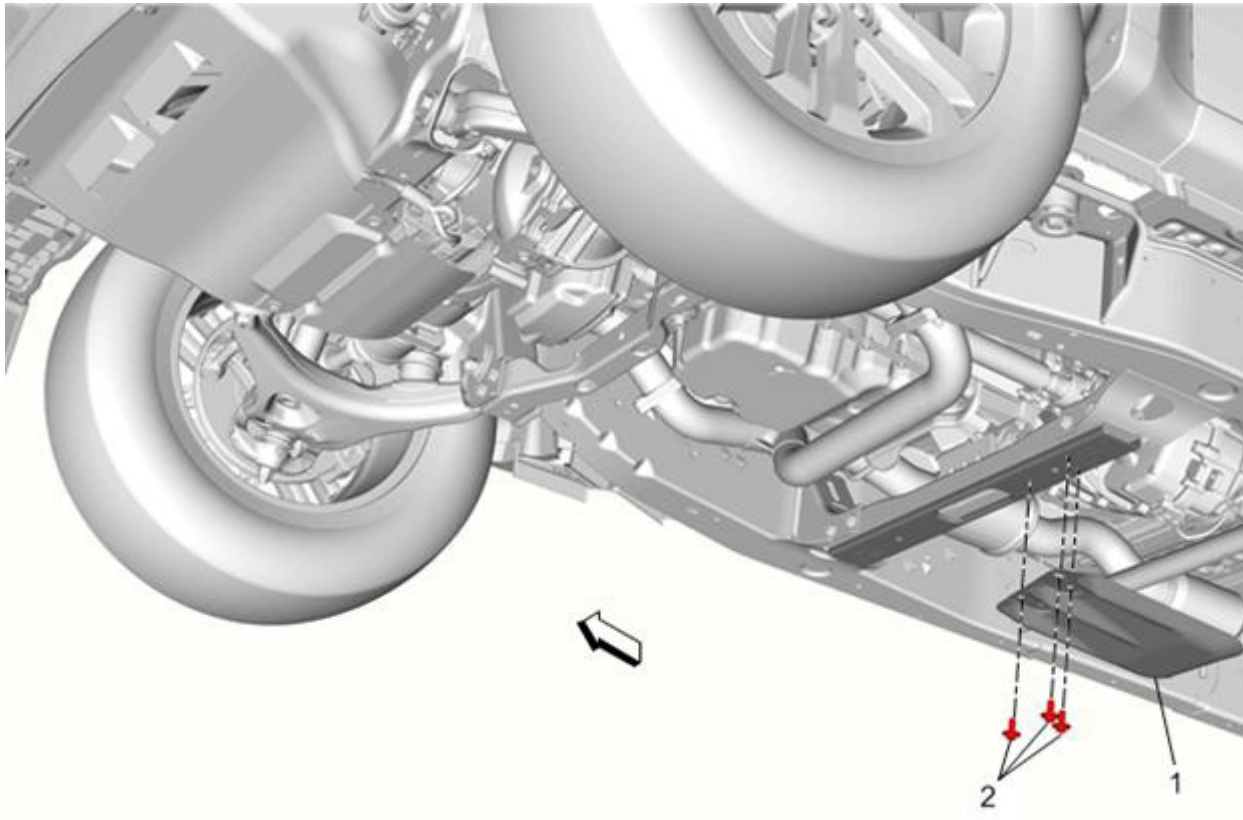

Figure 2
1. Position and attach Transfer Case Skid Shield (1) with supplied fastening bolts (2) to cross member (A) as shown in Figures 2 & 3.
2. Using a torque wrench, tighten the bolts (2) to **28 N·m (21 lb ft)**.